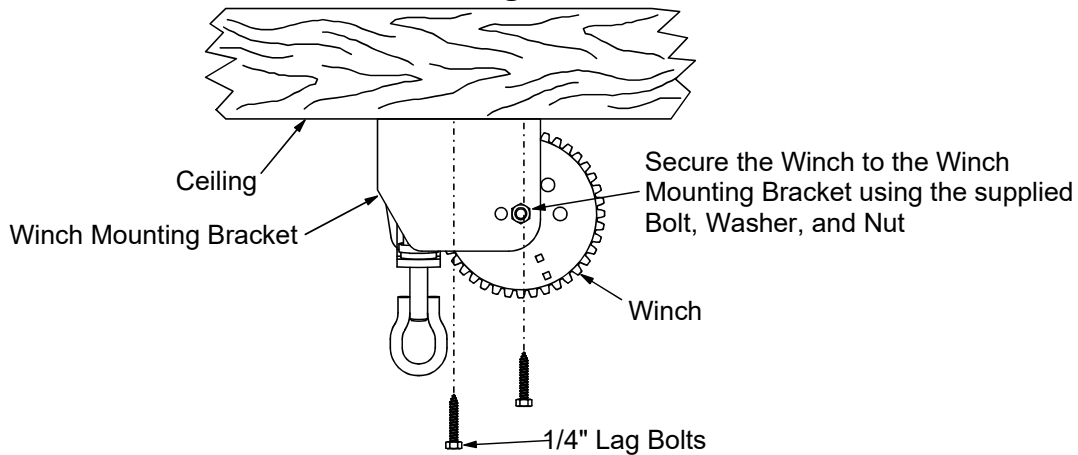

Figure 16. Winch Mounting
4. Mount the split drum winch as shown in **Figure 16**. Mount the winch to the ceiling or on a 2 x 8" [50 x 200 mm] board spanning at least two rafters for support. Use at least (4) 1/4" lag screws (not supplied) to secure winch to support. For systems less than 150' [46 m], the manual winch may be used in place of the split drum winch.
5. Bolt the winch to the bracket, as shown in **Figure 16**.